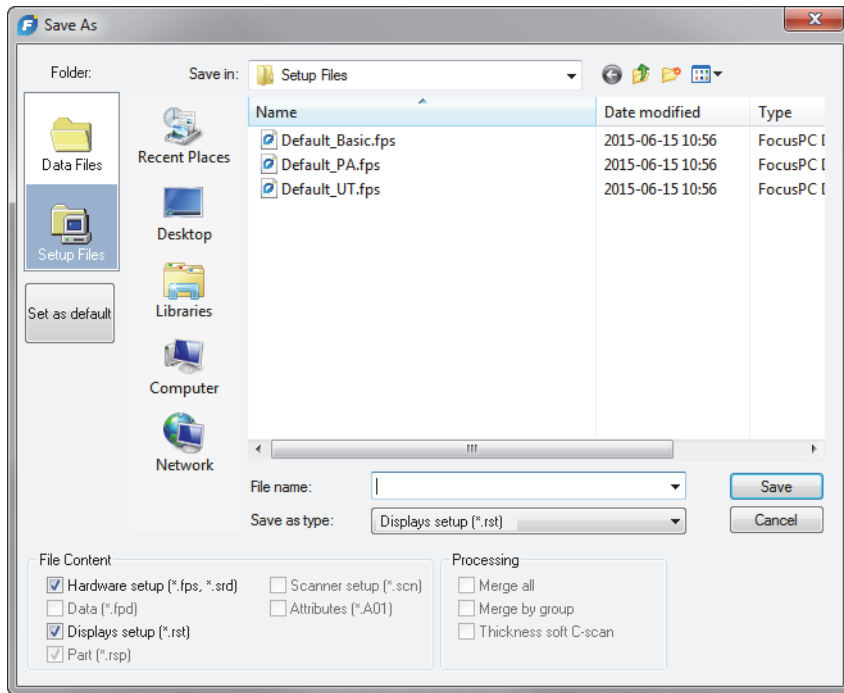

Figure 4-38 Save As dialog box
2. In the **Save As** dialog box that appears (Figure 4-38 on page 135), proceed as follows: